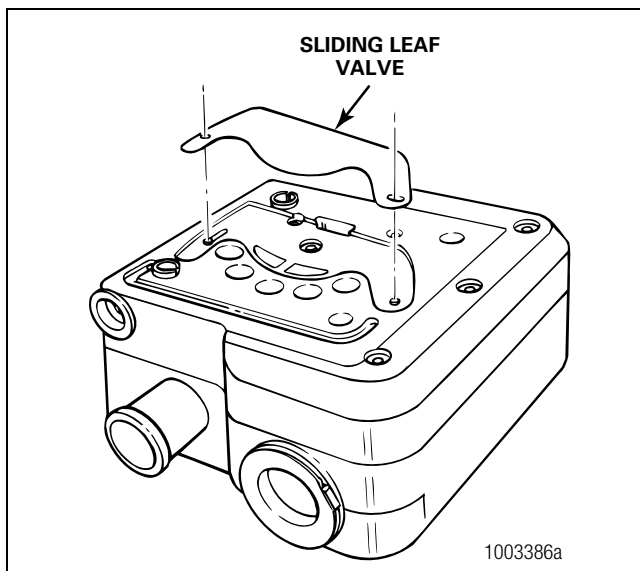

Figure 3.6
2. Install the sliding leaf. The two holes in the sliding leaf must be installed over the two pins on the base of the cylinder head. Figure 3.6.